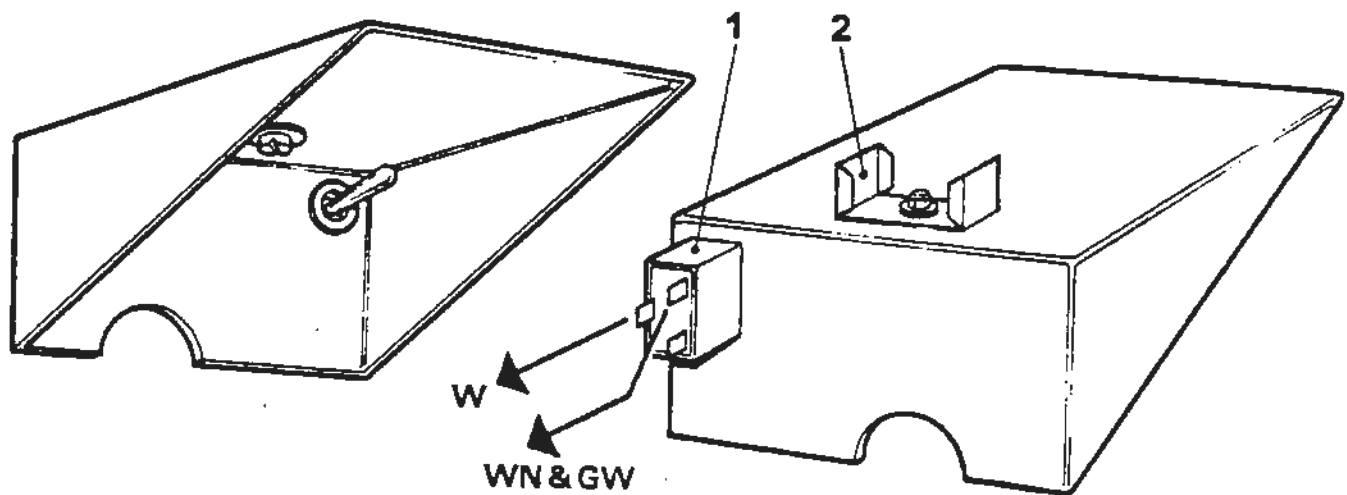

FIGURE 2 - FITTING ADDITIONAL FLASHER UNIT AND SWITCH
B FUSEBOARD AREA (See Fig. 2)
- 2 Remove the handbrake surround trim securing screws (3) and remove the trim.
- 4 Using Figure 2 as a guide fit a UD 15249 switch ('off' position uppermost) to the top right-hand corner of the front facing vertical panel. Ensure the off-set terminal is to the left when viewed from the front of the car.
- 5 Fit mounting bracket UA 8982/Z (required for an additional 'Lucas' flasher unit (direction indicators) 8FL type 53) onto the top of the handbrake surround trim as Figure 2. Secure the mounting bracket with suitable chromed headed bolts ensuring that the bolts are sufficiently shortened to prevent them fouling the flasher unit.